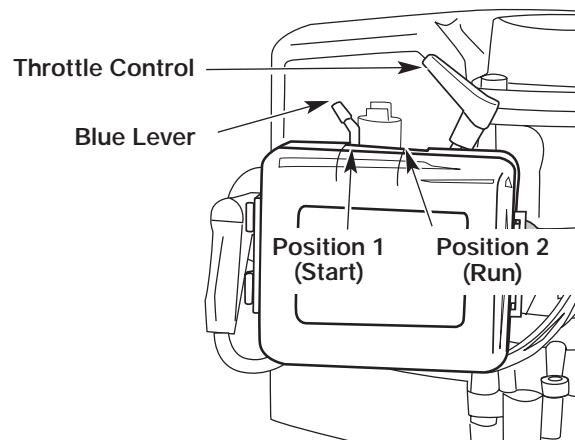

Fig. 3
3. Place the blue lever in Position 1- Start (Fig. 3).